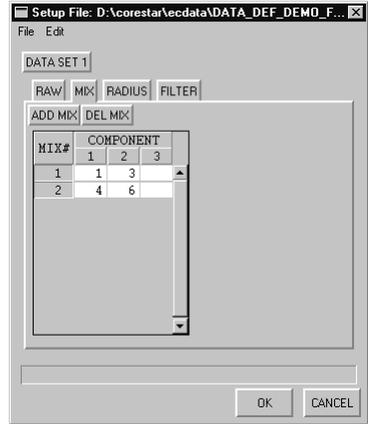

Figure 3-98. Setup Dialog - MIX Tab
- SETUP > MIX Tab:** The **MIX** tab on the **Setup** dialog is shown in Figure 3-98. This dialog displays current mix settings, if any, and is used to create new mixes. Figure 3-98 shows two (2) mix or process channels. **Raw** channels 1 and 3 are combined for Mix# 1 while **Raw** channels 4 and 6 are combined for Mix# 2. Up to three (3) channels may be selected for any given mix channel.